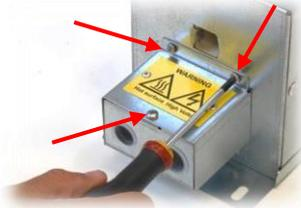

Figure 1
2. remove the cover by unscrewing the 3 screws as shown in the Fig. 1.
10. Close the lip by screwing 3 screws as shown in the Figure 1, max clamping torque is 1 Nm.